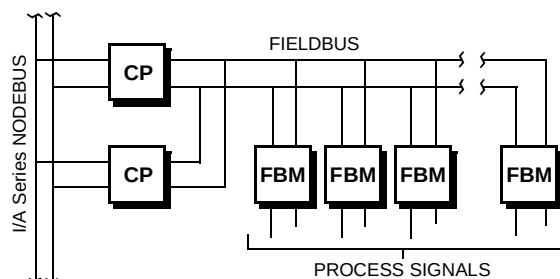
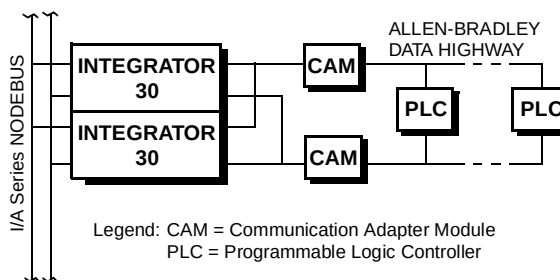

Figure 1. CP and FBM Connections
Figure 2. The Integrator 30 and PLC Connections
A Control Processor (CP) with a Fieldbus and its connections to the FBM(s) is shown in Figure 1. Figure 2 shows an Integrator 30 for Allen-Bradley PLCs and its connections to the AB PLCs.